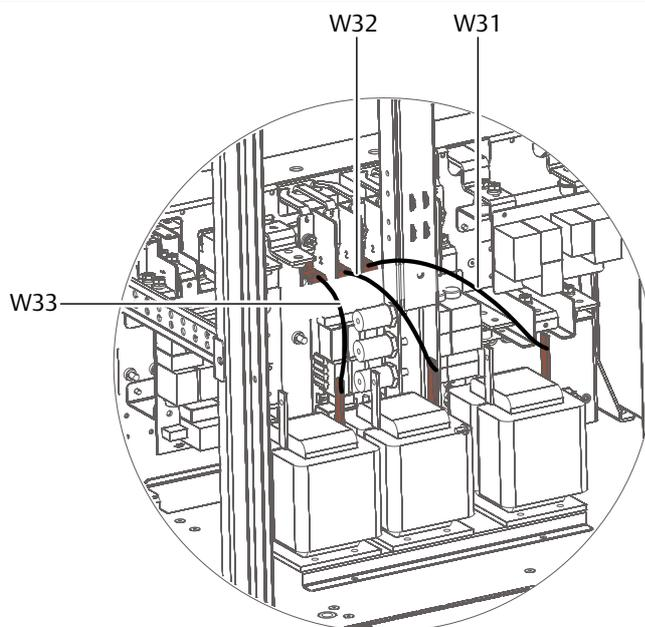

Figure 8-4 Inductor connections (2)
c) Connect the other end of cables W31 ~ W33 to the corresponding terminals on top of bypass Input switch Q2, and use the M6 × 16 SEMS screws to secure them to the terminals. The torque value is 4.8N.m. See Figure 8-4.